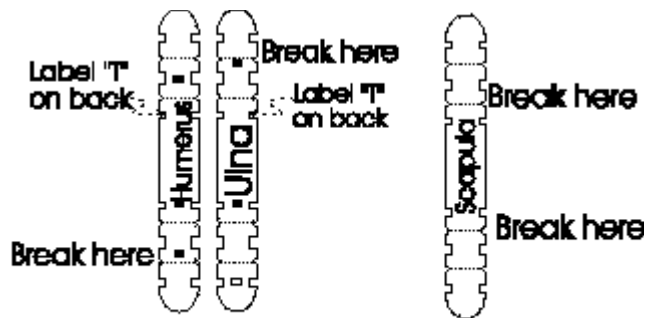

Figure 1
1. Mark the three skill sticks as shown in Figure 1. Note that some of the markings are made on the underside of the stick (humerus, ulna, and scapula). Break the stick where shown. Note that E stands for "elbow" and H for "hand".